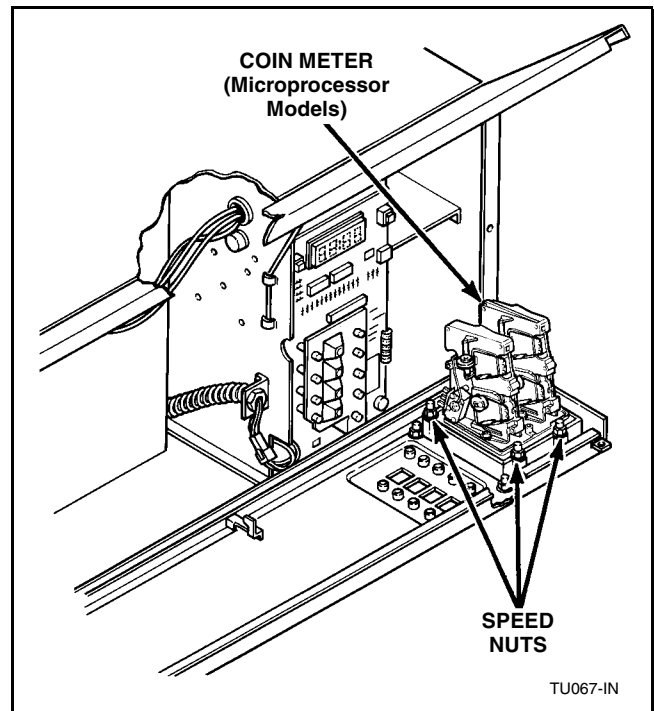

Figure 7
- Remove speed nuts holding coin meter to meter frame. Refer to *Figure 7*.
- Remove speed nuts holding coin drop to meter frame. Refer to *Figure 7*.
- Disconnect wires from appropriate switch. Refer to *Figure 7*.